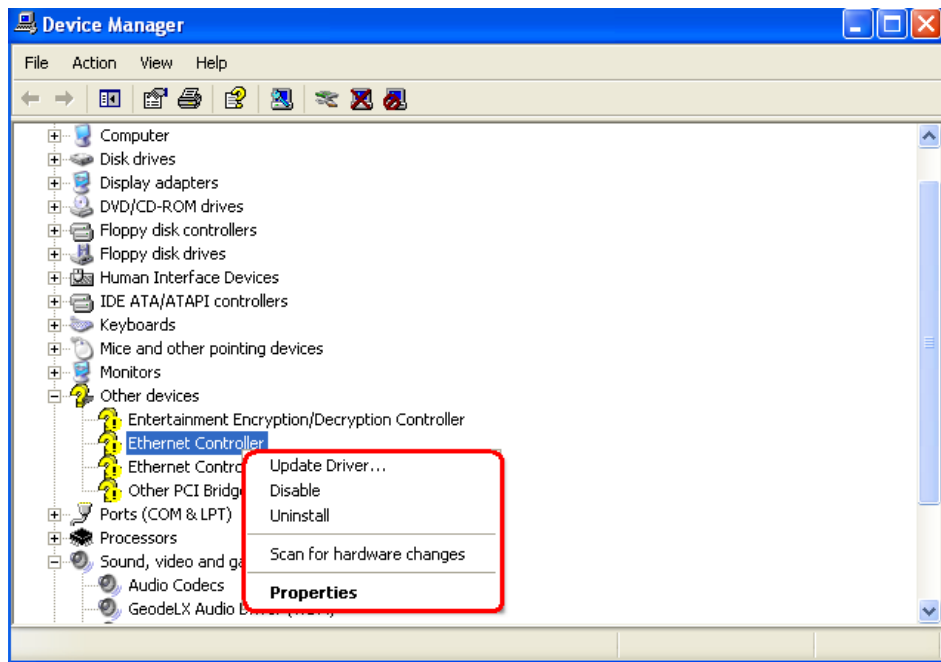

Figure 7-26: Update Ethernet Driver Selection
Step 3: The small window in **Figure 7-26** appears.
Step 4: Select the **UPDATE DRIVER** option in the small window shown in **Figure 7-26**.